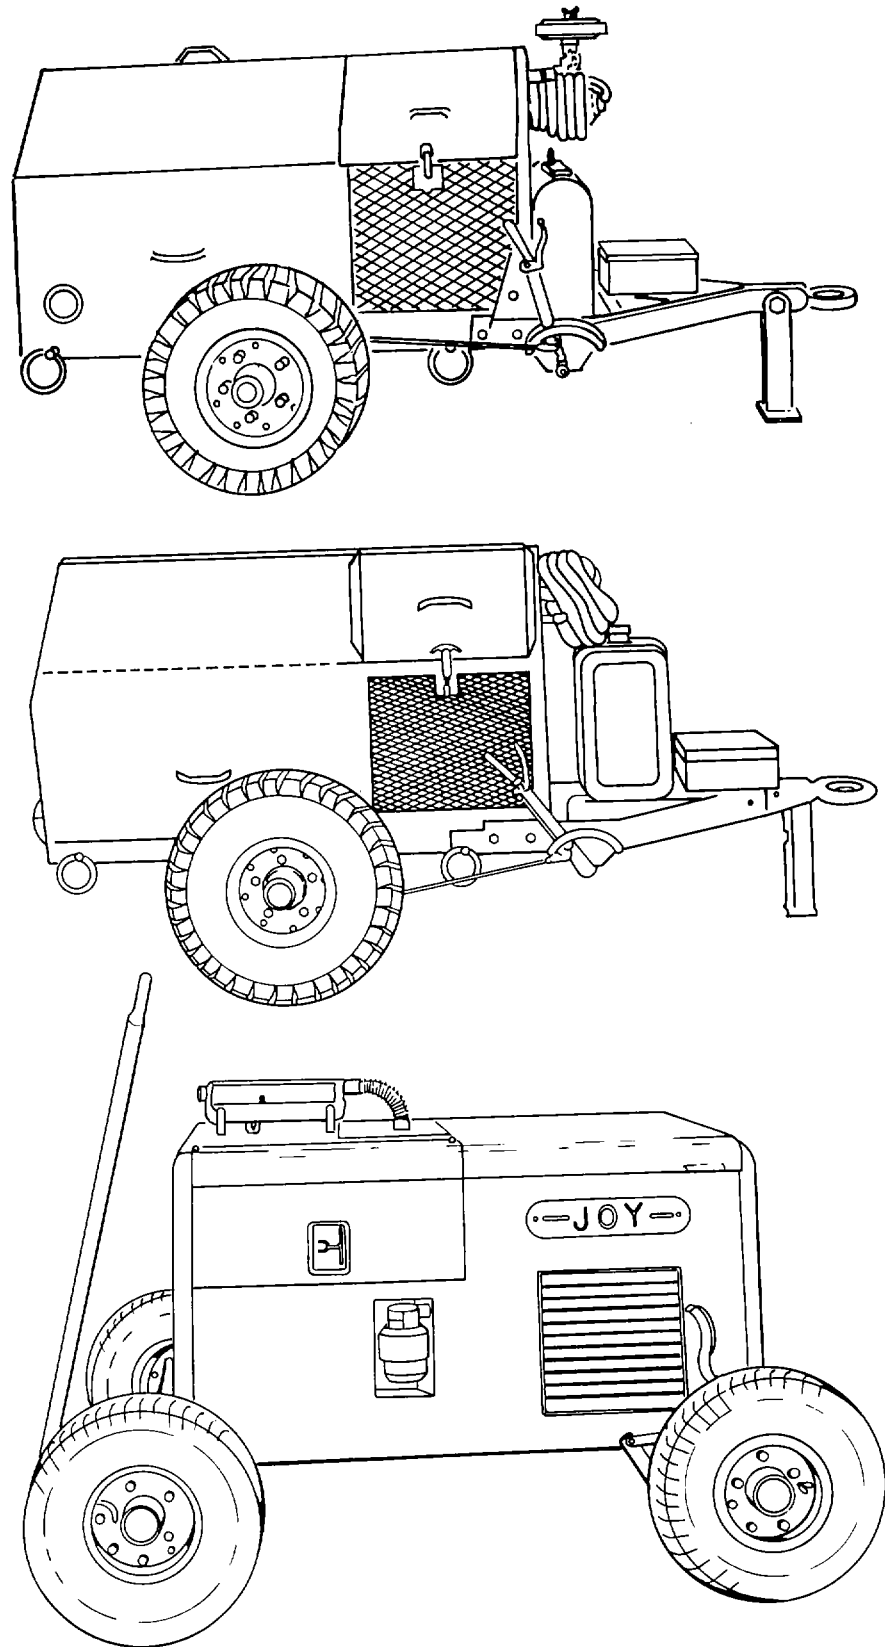

Figure 9-14. Typical Air Compressors
g. Air Compressors. Air compressors, shown in figure 9-14, are portable sources of compressed air. They are self-contained and mounted on a two or four wheel trailer frame.
(2) *Types.* Air compressors are typed by the maximum flow and pressure they can produce. Generally, the low pressure compressors provide up to 175 psi and are used for pneumatic tools, spray guns, greasing equipment, and so forth. The high pressure compressors produce pressures of 3,000 to 3,500 psi. These are used for tasks such as charging accumulators, struts, and pneumatic systems on aircraft. The external appearance of types may vary by model number or manufacturer. The air compressors shown in figure 9-14 are typical of those found in maintenance organizations.